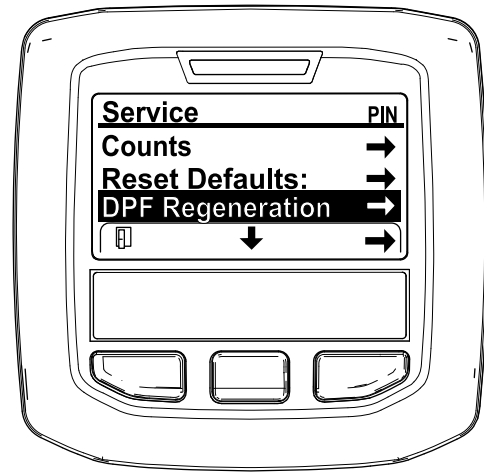

Figure 45
3. In the SERVICE MENU, press the middle button until the DPF REGENERATION options displays, and press the right button to select the DPF REGENERATION option (Figure 45).